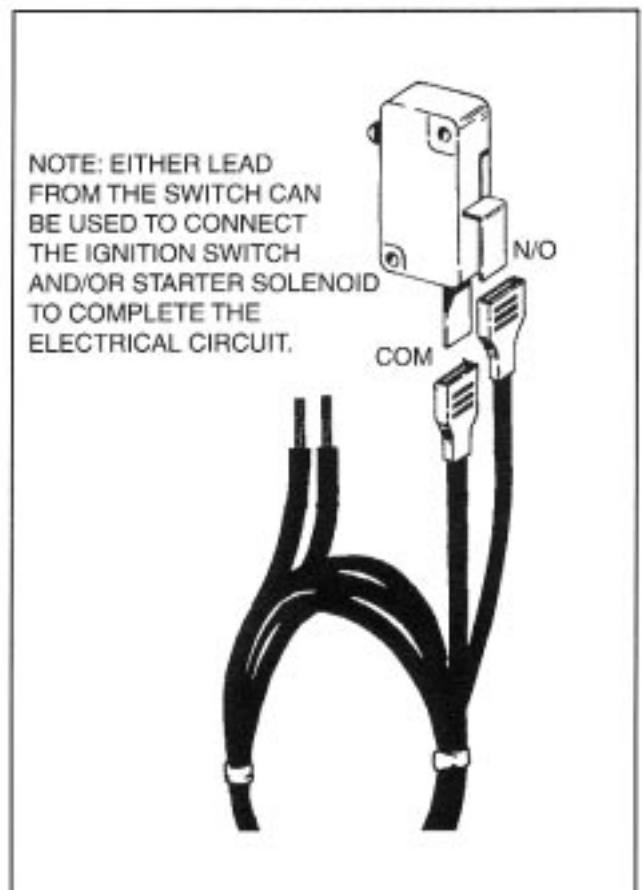

FIGURE 10
1. Connect the appropriate wires from the ignition switch and starter solenoid to either lead wire from the switch as shown in Figure 10.